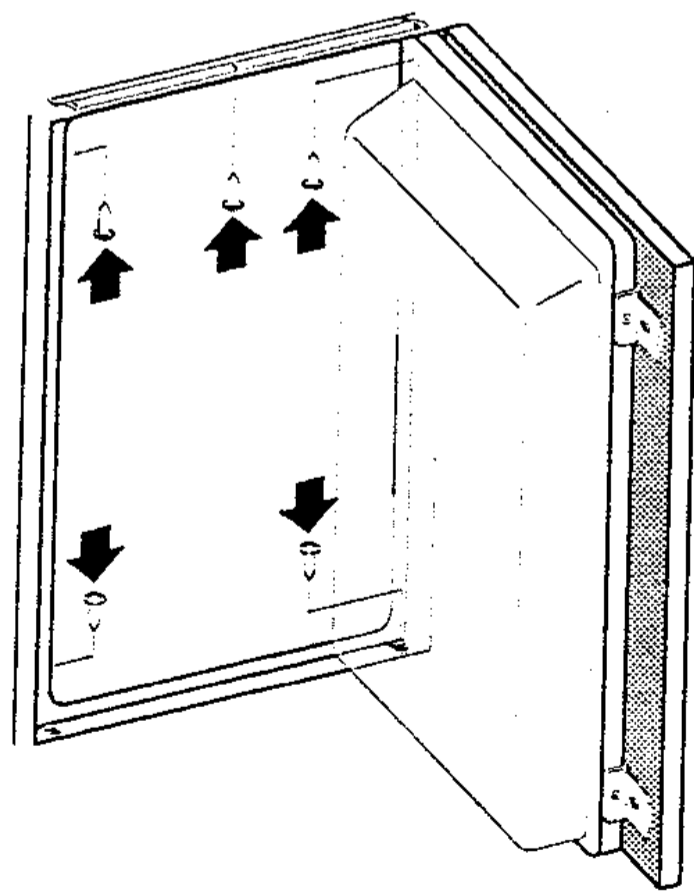

Fig. 5
- ❖ Fix the appliance into the kitchen unit. On the upper side, fix the three screws through the rail (A 4 x 12) and on the bottom side with two screws, through the lower hinges (A 4 x 16). Drill holes, ø 3 x 5 (Fig. 5).